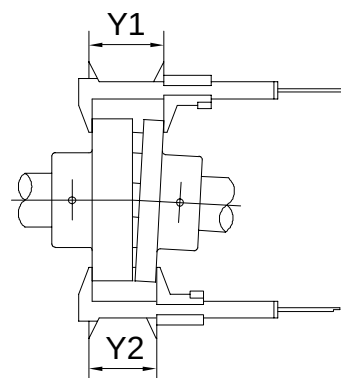

Fig. 14
- 10 - Angular misalignment can be measured with a Calliper. Measure the outside coupling dimension at several points (see fig. 14). Find the minimum and maximum width of the coupling, the difference between these two readings "Y" (Y1-Y2) should no exceed the value listed in tab. 2 for the given coupling size. Should this value be greater it will be necessary to correct the alignment by shimming the pump and/or motor. Following this operation it is recommended to check once more the value "X" to make sure that both values are within the allowed tolerance (see point 9). Make sure that both set screws on the coupling halves are properly secured.